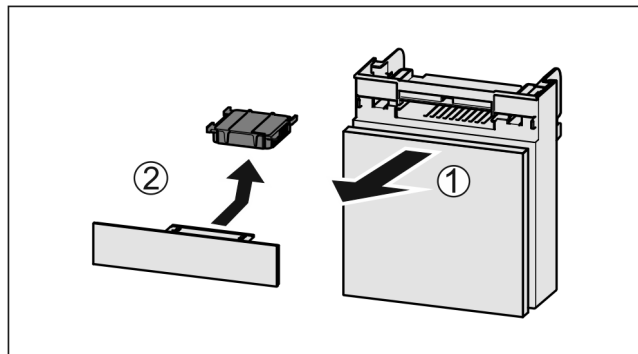

Fig. 118
- ▶ Pull out the compartment Fig. 118 (1).
- ▶ Remove the carbon filter Fig. 118 (2).